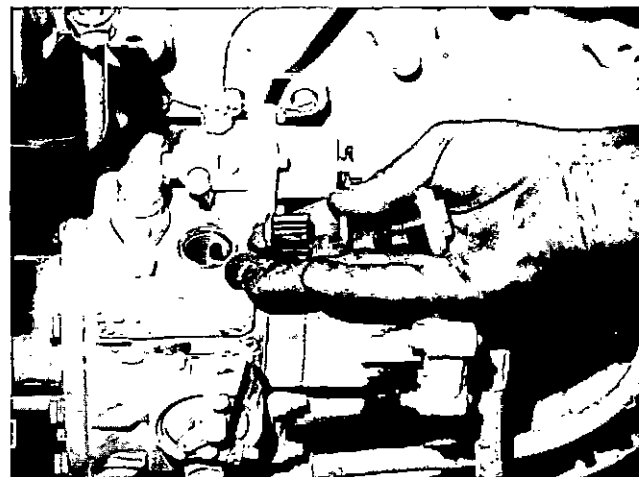

Fig. 5-33. Fuel pump filter screen
1. Loosen and remove cap at top of fuel pump. Remove spring. Lift out filter screen assembly. Fig. 5-33.